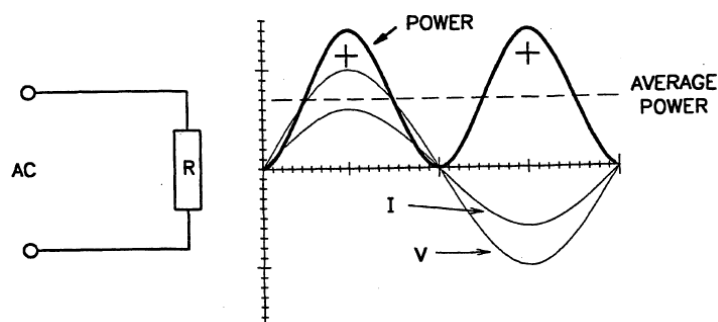

Figure 2 - Power in a purely resistive circuit
5. The waveforms of the power in a purely resistive circuits on a.c. is shown in Figure 2.
6. The waveform in Figure 2 is obtained by plotting the instantaneous values of voltage and current over one complete cycle. The horizontal line which forms the X axis of the POWER curve represents the AVERAGE power over the complete cycle. Note that the algebraic product of two negative values is positive (negative times negative gives positive), so during the half cycle when both voltage and current are negative, the power is positive. Positive power is defined as power taken from the mains, so in a purely resistive circuit, all of the power is taken from the mains and converted to heat.